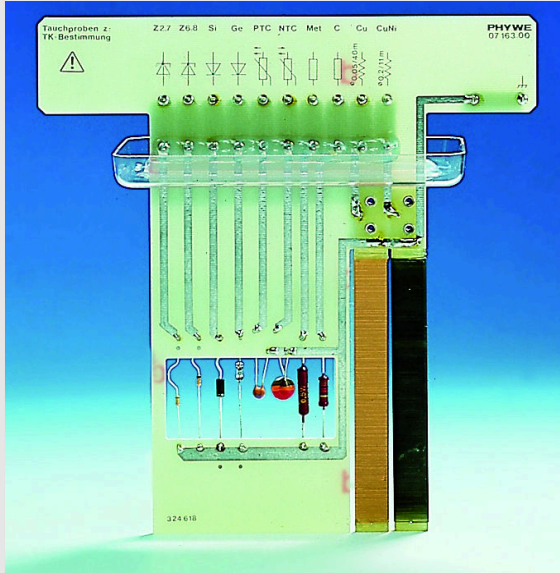

Fig. 2:
- At first, enclose the immersion probe set (Fig. 2) in a watertight plastic bag to avoid short-circuiting. Only then place the immersion probe set into the water bath.